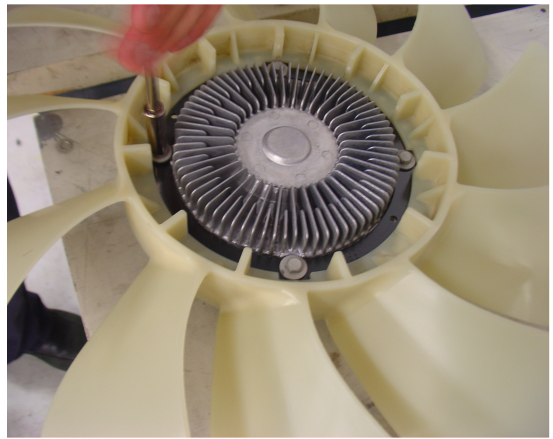

Figure 14
24. Using an 8 mm socket and ¼" drive ratchet, remove the 4 bolts from the fan & hub assembly. (Figure 14)